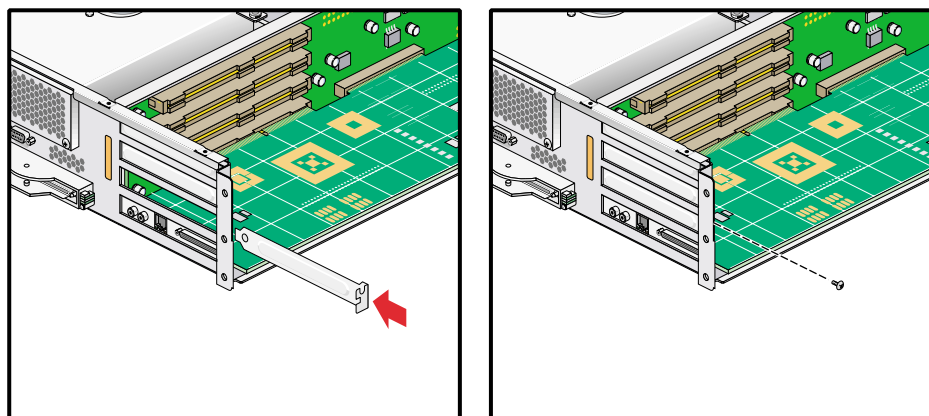

Figure 6-14 Placing a Blanking Plate
11. Place a blanking plate to cover the slot where you removed the card, and screw in the retaining screw, as shown in Figure 6-14. After installing the blanking plate, if you have removed a card from one of the two lowermost slots, proceed to the next step. Otherwise, proceed to step 14.